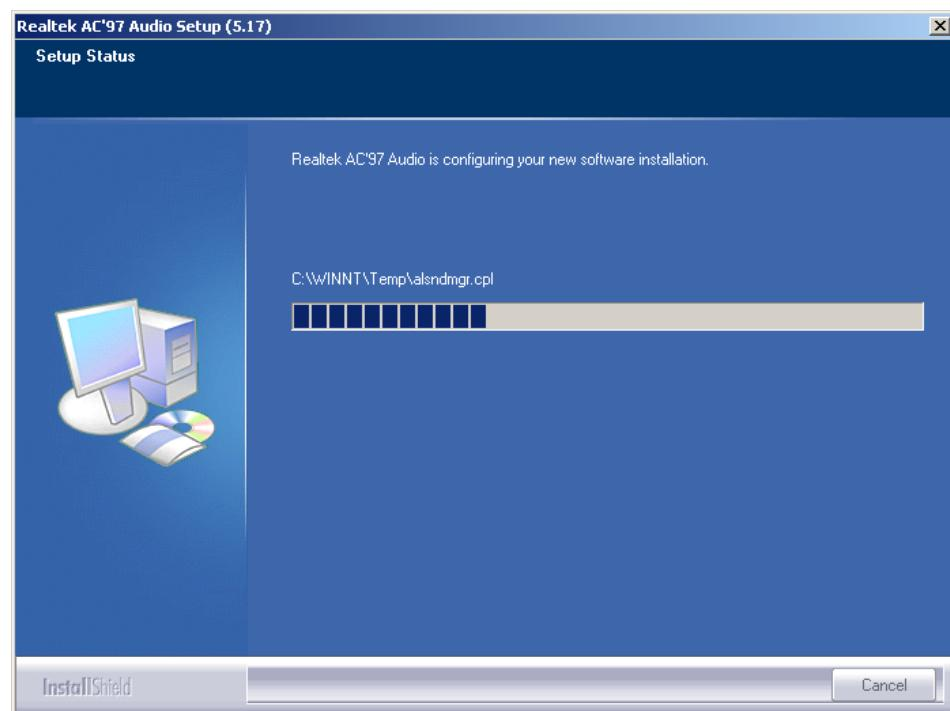

Figure 7-10: Audio Driver Software Configuration
Step 9: The **InstallShield** configures the new software installation. (See **Figure 7-10**)